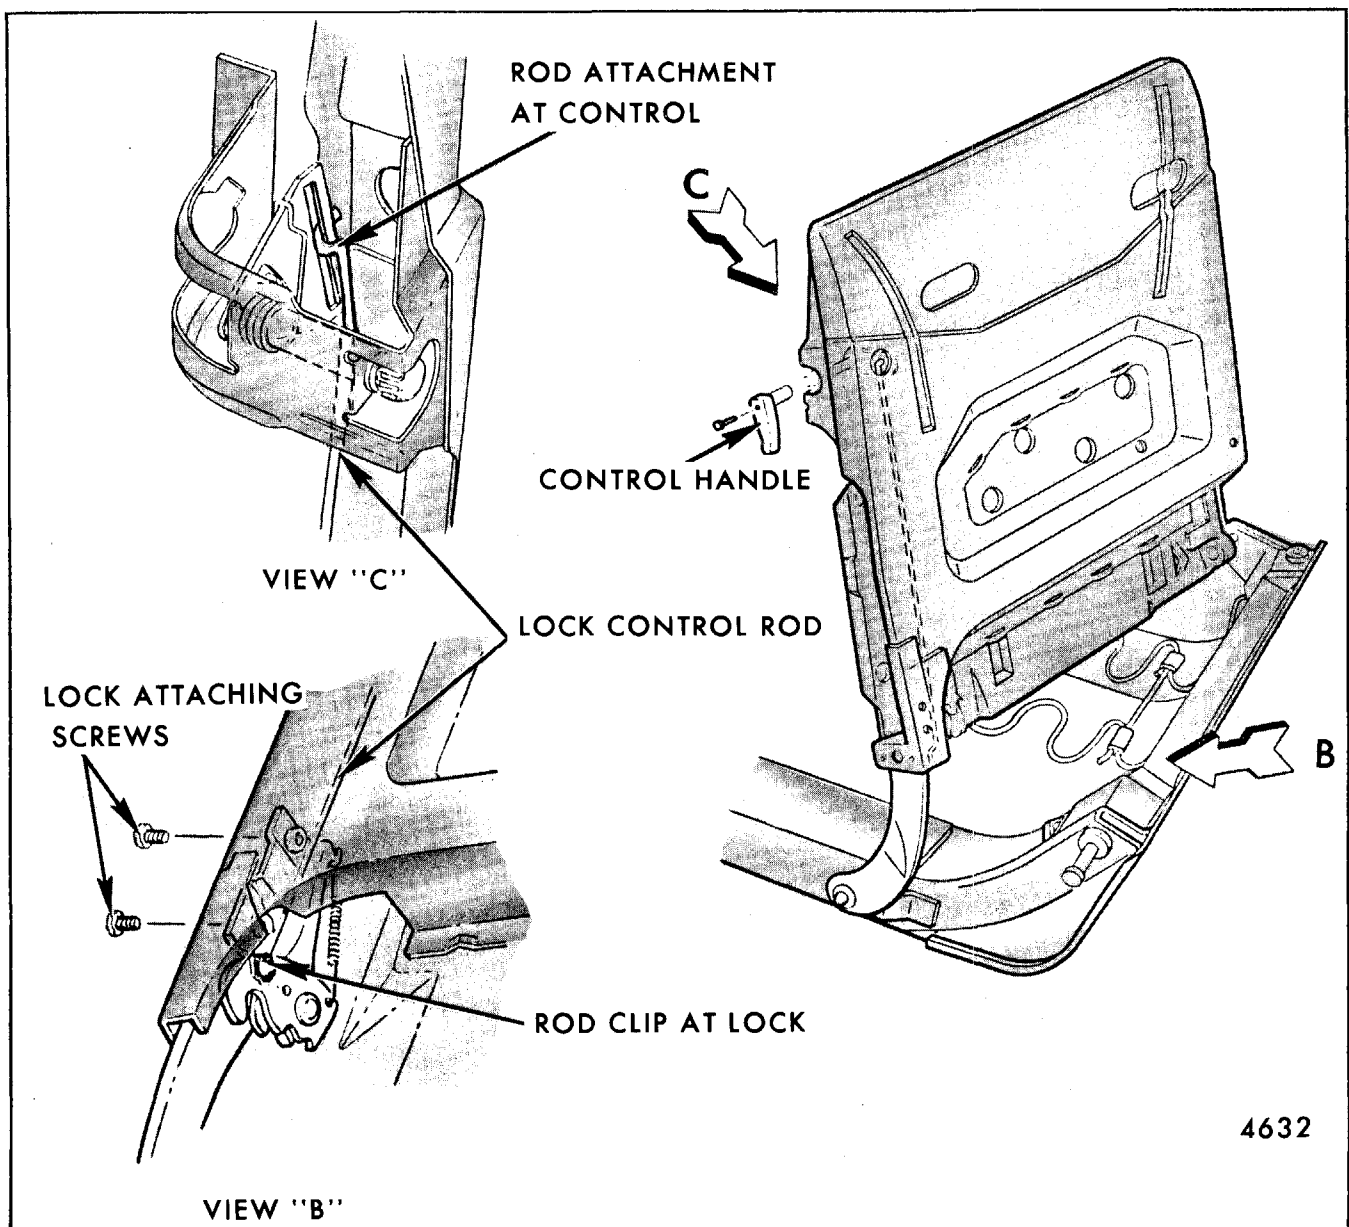
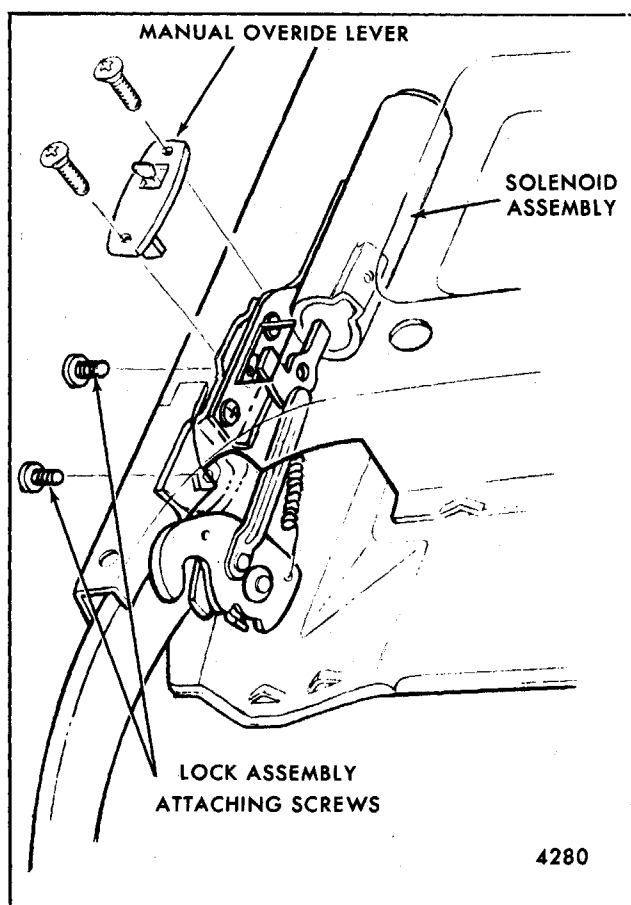

Fig. 9-82-Front Seat Back Manually Operated Lock - Oldsmobile E Body Styles with Full Width or 60-40 Seats and Chevrolet Monte Carlo with 50-50 Seats
Fig. 9-83-Front Seat Back Electrically Operated Lock - E Styles with Full Width Seat
bottom of seat back; then turn up trim and carefully pull out foam pad sufficiently to gain access to lock attaching bolts (Fig. 9-82 or 9-83).
6. On manually operated seat back lock, disengage lock connecting rod clip (Fig. 9-82) and detach rod from lock. To disengage clip it is usually necessary to damage or break clip. On electrically operated seat back lock, disconnect feed connector from lock solenoid.
7. Remove seat back lock attaching bolts (Fig. 9-82 for manual lock, Fig. 9-83 for electric lock); then remove lock assembly from seat back.
4. To remove seat back lock to control connecting rod, disengage rod clip at lock (Fig. 9-82, view
B); then rotate rod counterclockwise on driver's seat back or clockwise on passenger's seat back to disengage hooked upper end of rod from slot in control plate and remove connecting rod (see Fig. 9-82).